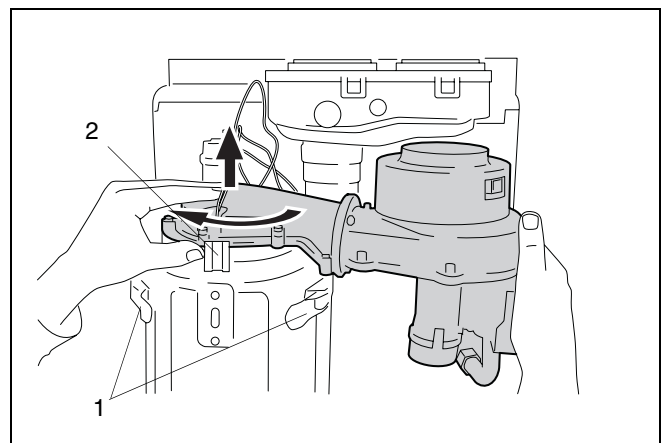

fig. 56 Remove gas air unit
- By turning the unit a quarter turn (→ fig. 56, item 2), the unit can be removed by lifting it out of the boiler.
- Now the front cover of the heat exchanger can be removed by opening the latches (→ fig. 56, item 1).